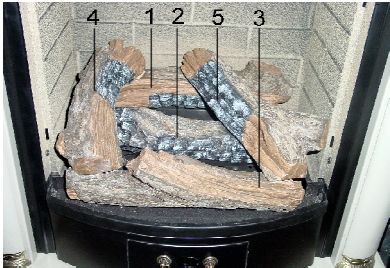

Figure 4
- Insert the pinhole on the upper side of log 5 into the pin on the right side of log 1. Place the lower part on the flat roof at the right side of log 3 (Figure 4).